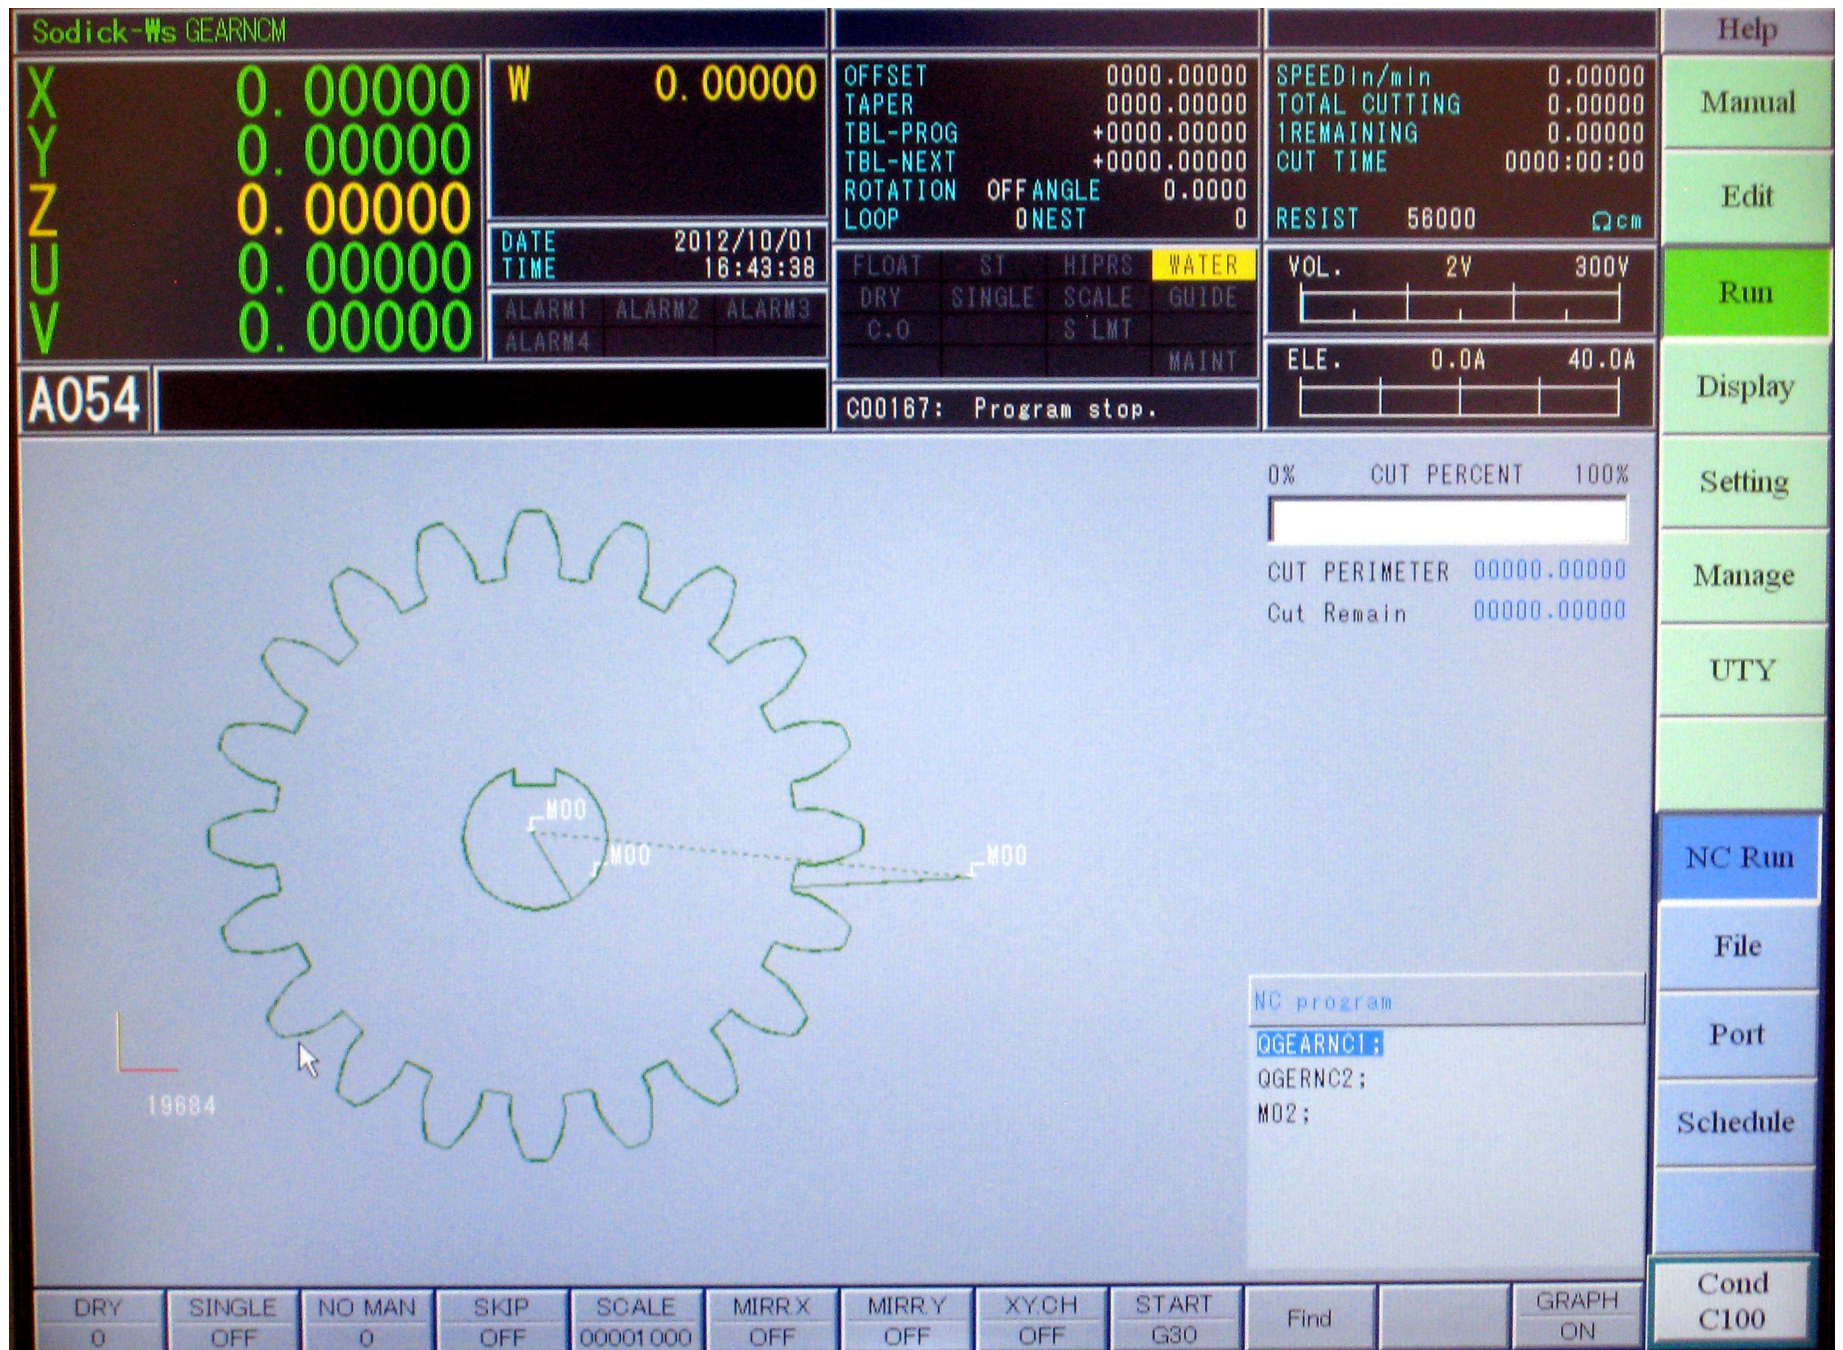

Figure 12
- Click on the **Run** button in the upper right hand corner of the screen. Click on **NC Run** in the lower right hand edge of the screen. Make sure that the Graph button in the lower right corner of the screen is on. The screen will be similar to Figure 12.